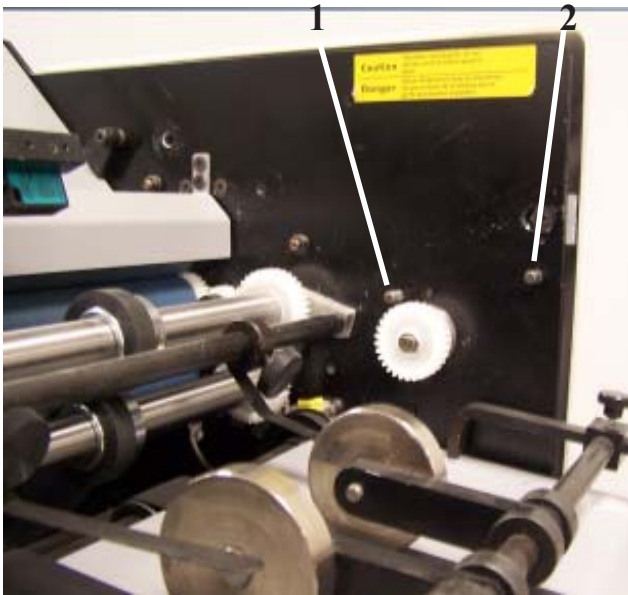

Figure 4
See **Figure 4**. Place feed table with feed wheel toward the rolls. Slide the front knotch onto locating pins (1) and rotate the back end of the table downward to rest on upper dowel pins (2). Identical pins on both frames.